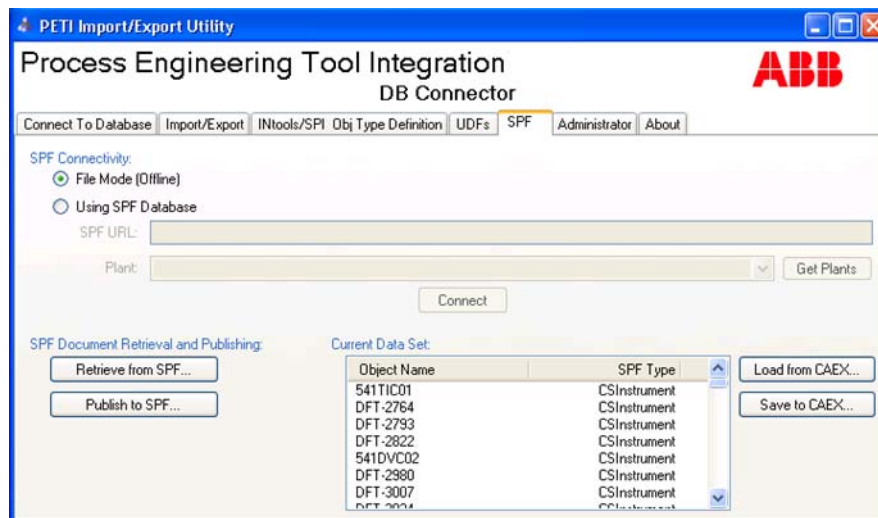

Figure 64. Current Data Set
9. Click the **Close** button once the files have been retrieved successfully. Data will appear in the Current Data Set as shown in Figure 64.
3. Click the **Load from CAEX** button to load data from CAEX file and publish into SPF. Data will appear in the Current Data Set as shown in Figure 64.